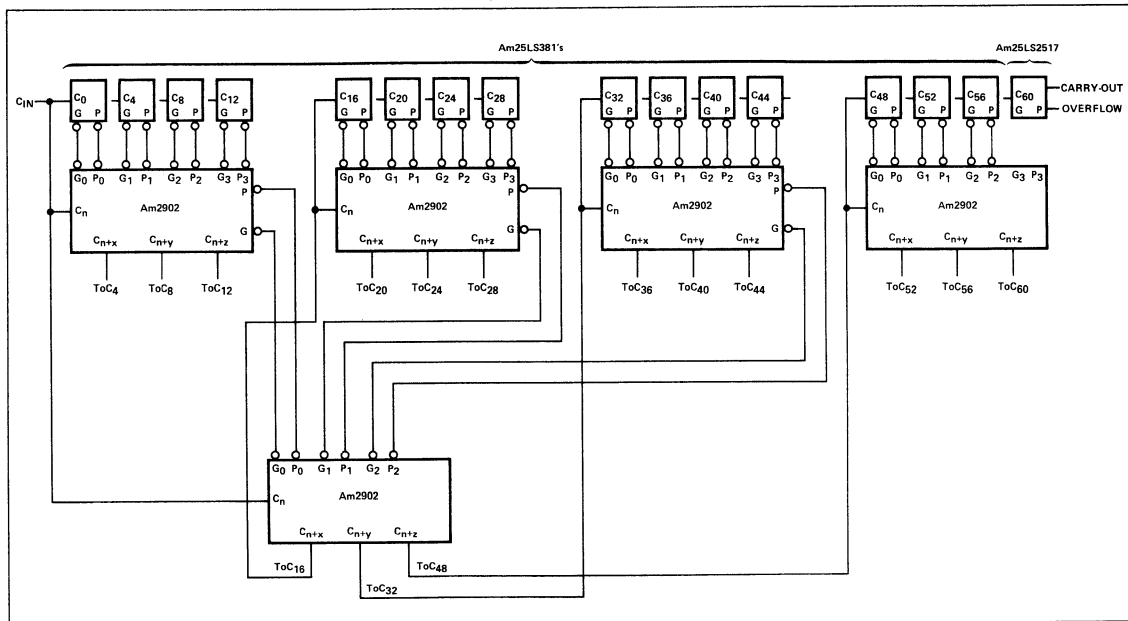

Figure 9. 64-Bit ALU with Full Carry Lookahead Using 5 Am2902's, 15 Am25LS381's and 1 Am25LS2517.
3. Full lookahead carry across all levels and all block sizes can be used. This is the highest speed arithmetic logic unit connection scheme. For word sizes up to 64 bits, it is referred to as three-level lookahead carry addition. Such a 64-bit ALU requires the use of five Am2902 carry lookahead generator units in addition to the 15 Am25LS381 devices and one Am25LS2517 as shown in Figure 9.
Let us examine the speed of a 64-bit arithmetic logic unit fabricated as shown in Figure 9. The worst case path for this design is as follows: